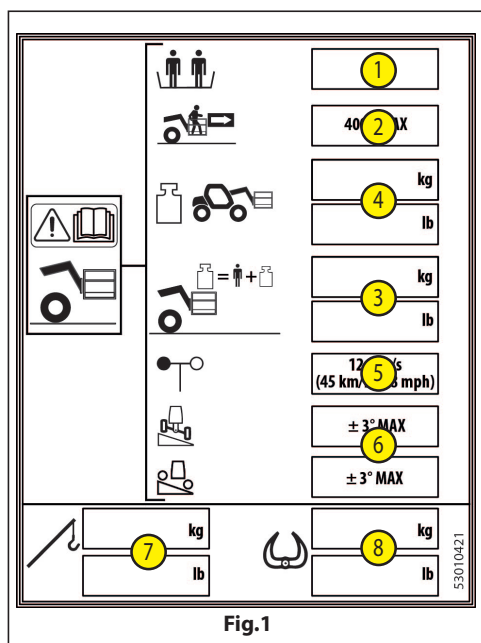

Fig.1
**Platform user plate (See Figure 1, point 1) in cab (See Figure 2, point 1).**